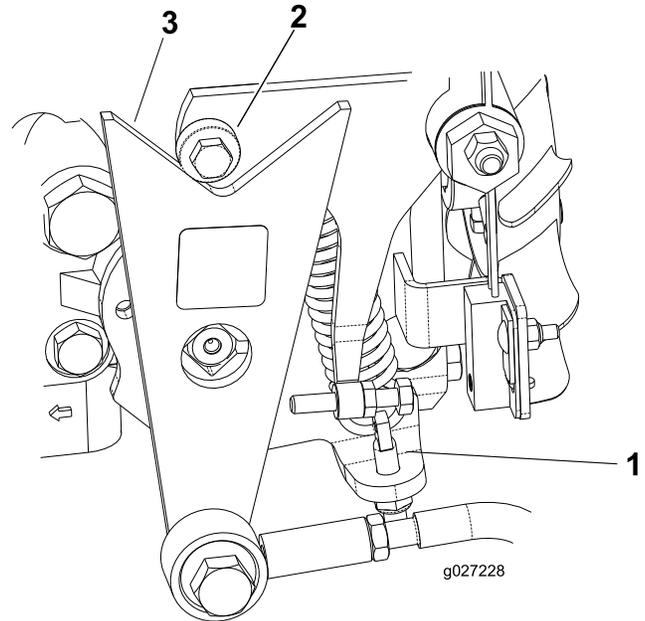

Figure 43
- If the wheels rotate in the proper direction, shut off the engine and adjust the spring-adjusting pin locknut (Figure 43). Adjust the traction neutral position; refer to Adjusting the Traction Drive for Neutral (page 31).